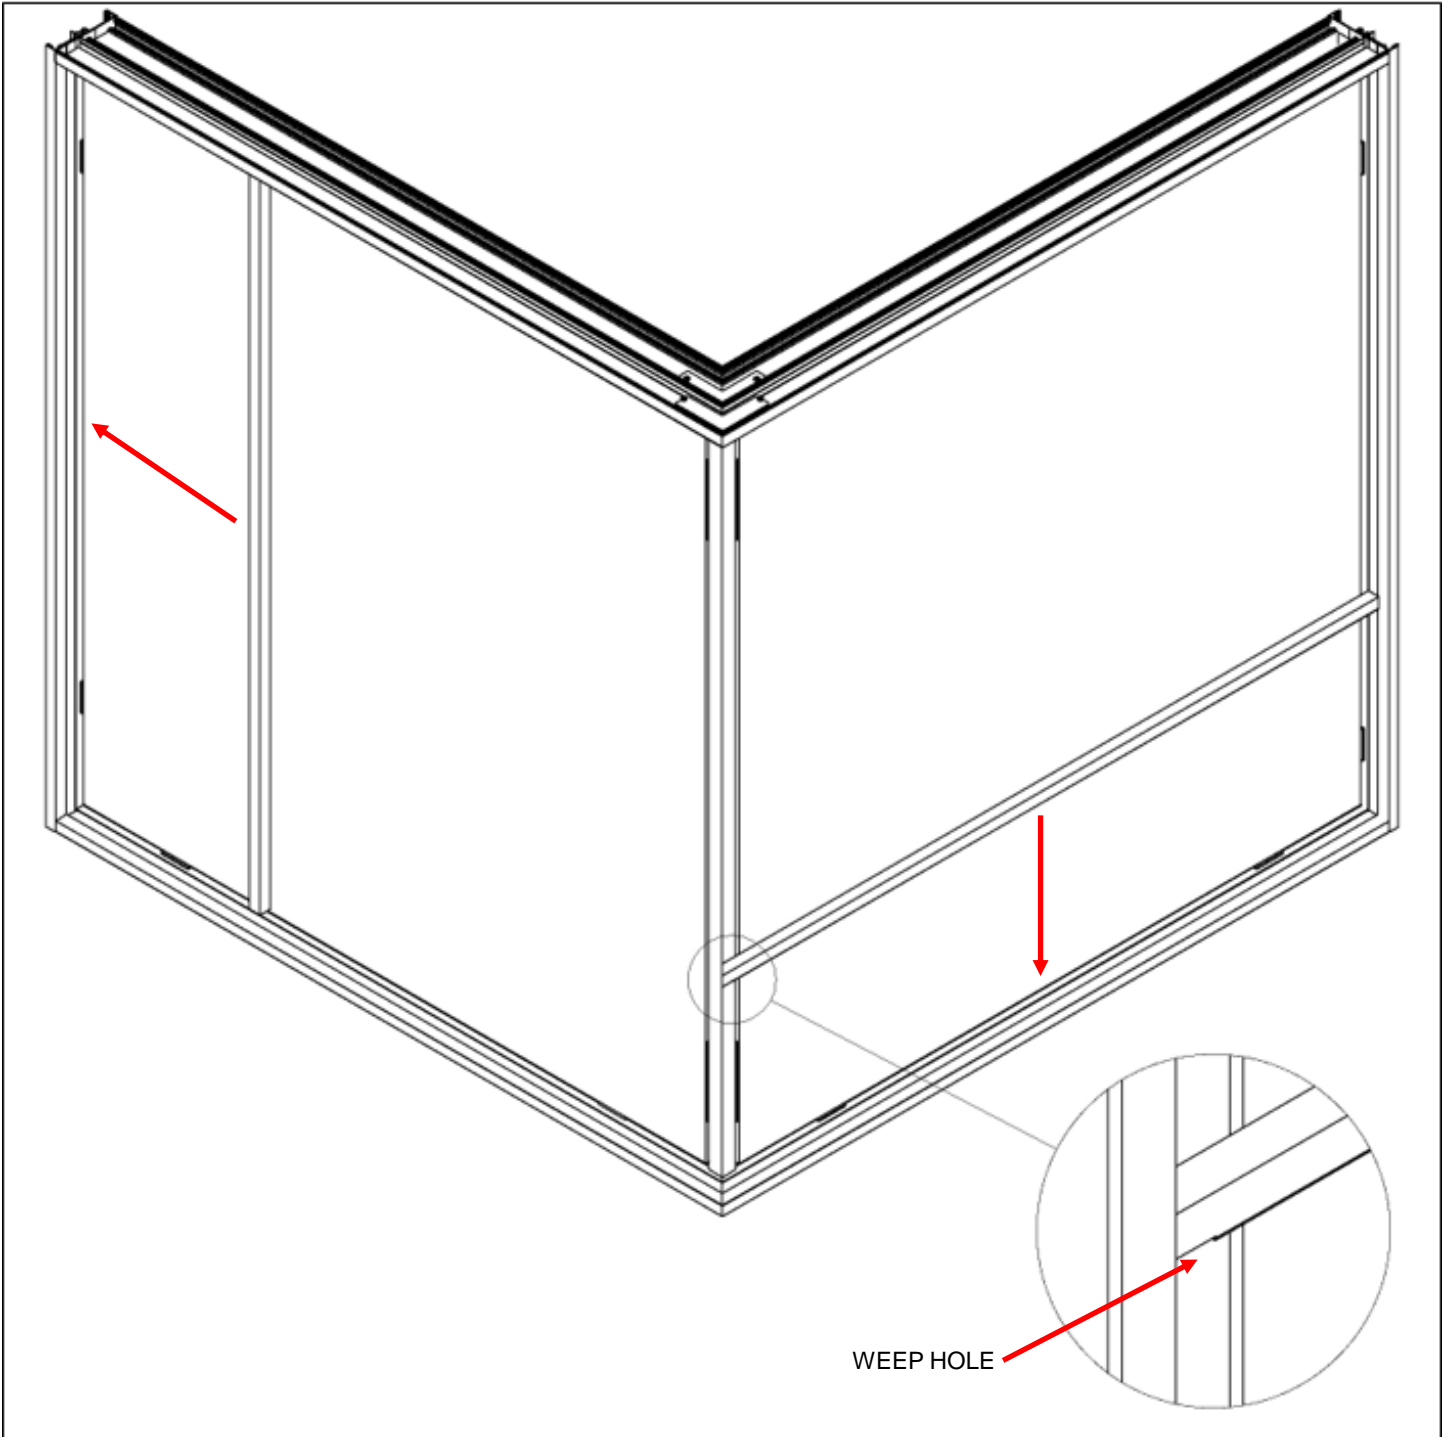

Fig. 8
3. Install the glass stop making sure the glass stops with weep holes are installed in the sill of the unit (see Fig. 8).